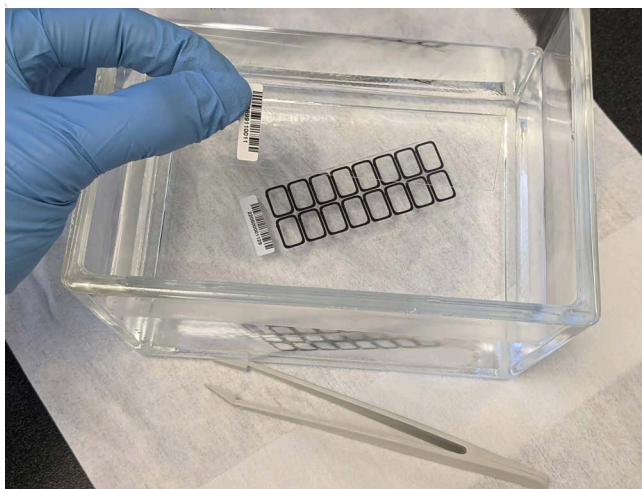

Figure 27 Removal of the microarray slide from dish #1
- d While grasping the microarray slide with thumb and forefinger (as shown in **Figure 27**) remove the microarray slide from the dish #1 and quickly put into the slide rack in the slide-staining dish #2 containing **Oligo aCGH/ChIP-on-Chip Wash Buffer 1** at room temperature. Minimize exposure of the slide to air. *Touch only the barcode portion of the microarray slide or its edges!*